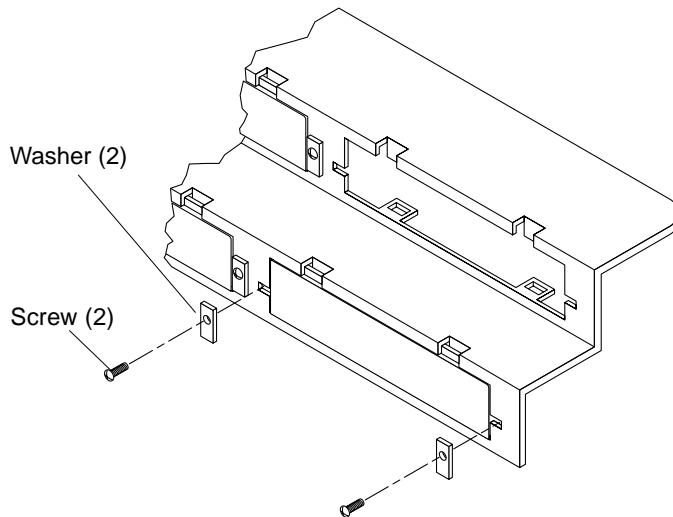

FIGURE 11-19 SBus Card Back Panel Screws and Washers
7. Install the screws and washers into the SBus card back plate (FIGURE 11-19).